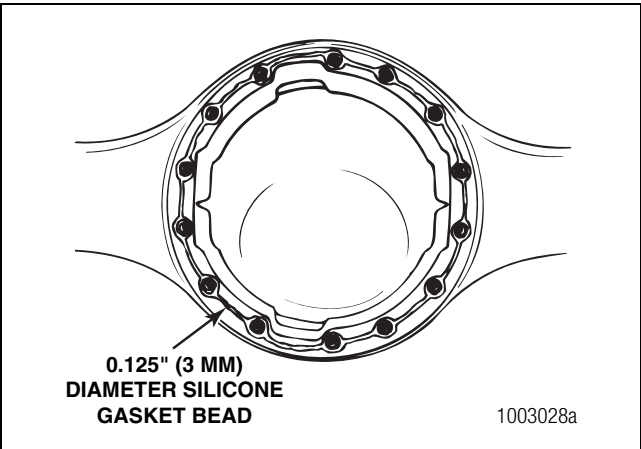

Figure 4.14
- 4. Apply a 1/8-inch (3 mm) diameter continuous bead of the silicone gasket material around one surface. Also apply the gasket material around the edge of all fastener holes on that surface. Figure 4.14.